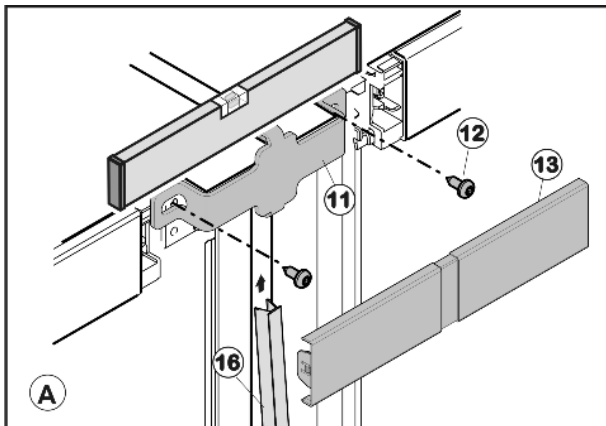

Fig. 65
- ▶ Secure upperconnecting element Fig. 65 (11) using two screws Fig. 65 (12). Make preliminary holes (optional) or use a cordless screwdriver.
- ▶ Clip on cover panel Fig. 65 (13).
- ▶ Fit strip Fig. 65 (16), push it slightly under the top cover Fig. 65 (13) and then press it downwards into the gap.